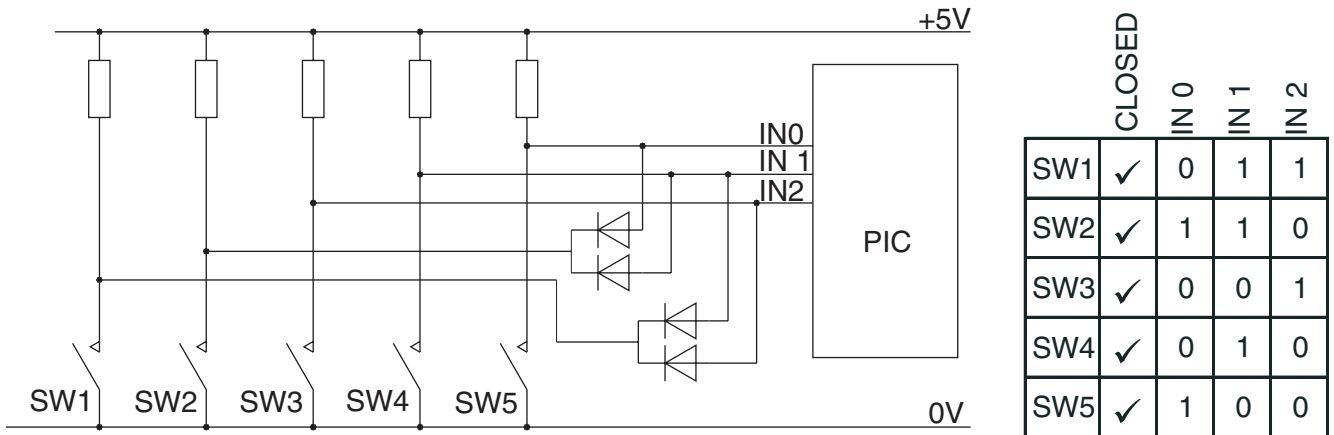
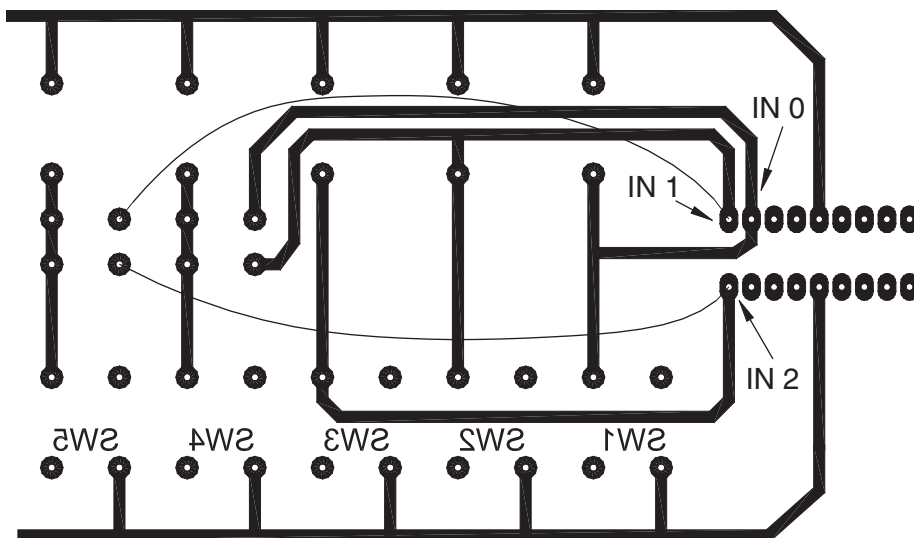

Fig. 17
Fig. 18
- 5 PIC microcontrollers are increasingly used in electronics. The limited number of inputs available can be a problem for the circuit designer. Fig. 17 shows one way of increasing the number of inputs that can be recognised.
- (b) (i) The design from Fig. 17 is converted into a PCB using a CAD program with auto-routing shown in Fig. 18. Two of the tracks are not routed, these are shown as thin lines. Complete the layout by routing these two tracks.